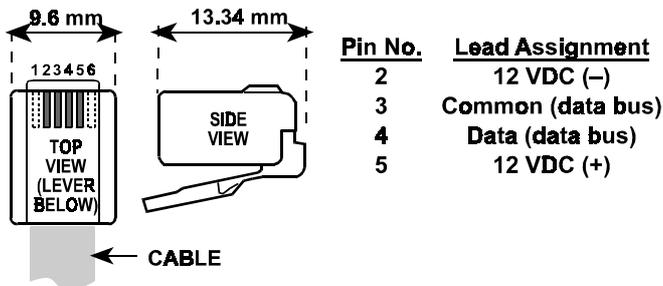

Figure 4-4. 4-Position RJ-11 Plug
- Two 4-position RJ-11 male plugs (see Fig. 4-4).